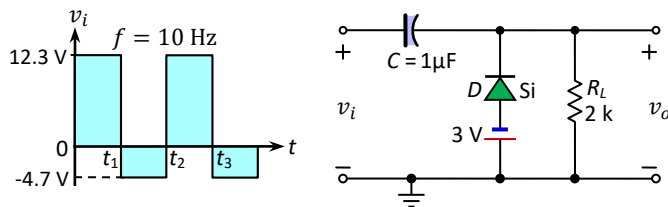

Fig.3-127: (a) Input waveform, and (b) Clamper circuit for Example 3-
47. Determine the output waveform of the network of Fig.3-127 for the given input waveform. Consider a Si diode with $V_F = 0.6 \text{ V}$.